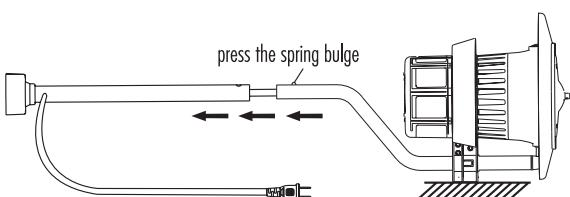

Figure 3
3. Insert the connector piece into the stand base. Align pole and connect by screwing nut as in Figure 3.